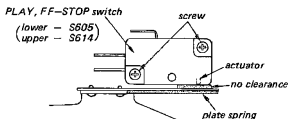

Fig. 3-6. PLAY, FF-STOP switch (S605, 614) position adjustment
- Place the unit in the FF or REW mode, to energize the brake solenoid. Check to see that the actuator of microswitch is perfectly pushed with the plate spring and also that the no clearance between the microswitch and the plate spring is obtained as shown in Fig. 3-6. If necessary, adjust the position of the microswitch by loosening the two switch holding screws.